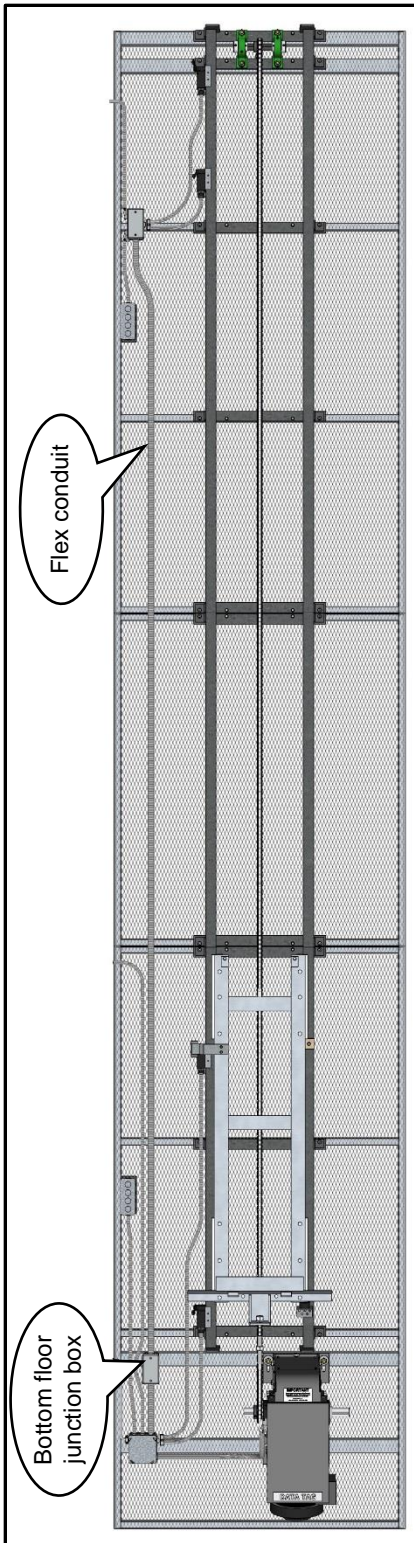

Figure 28
- 1** Lower flex conduit from top floor and connect to junction box at bottom floor. (see Figures 28 & 29)